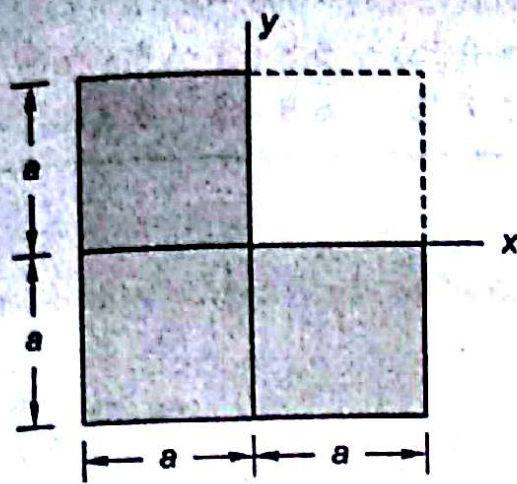

Fig. 5.18
- 5.5 What is \bar{x} of shaded area of a square (Fig. 5.18)?